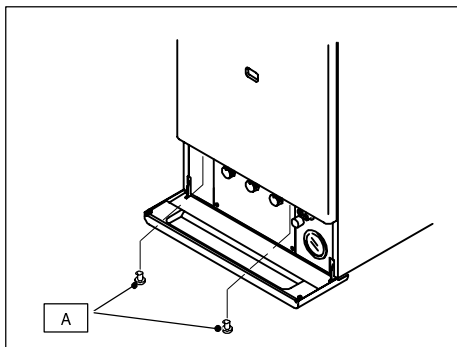

fig. 6.1
- 1 Loosen the two screws "A". Bring the base of the panel far from the boiler and lift it, freeing it from the top hooks (fig. 6.1)